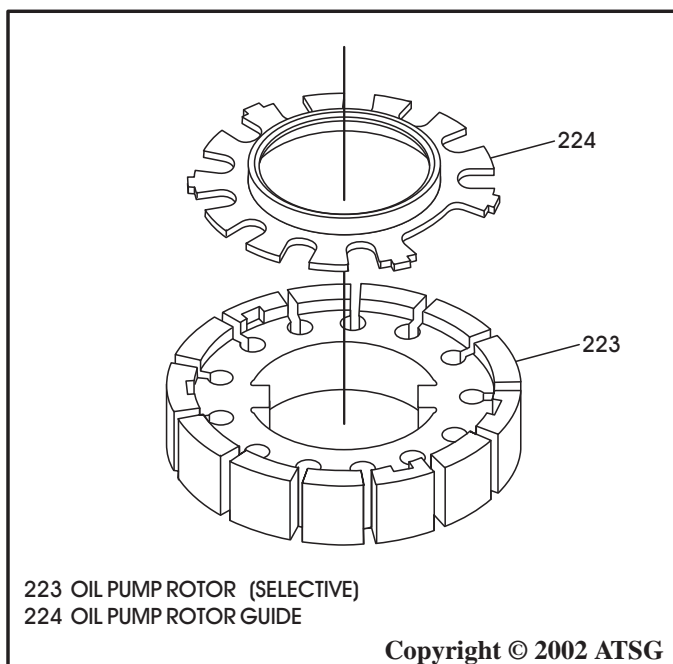

Figure 65
24. Install the oil pump rotor guide into the rotor in the direction shown in Figure 65, and retain with a small amount of Trans-Jel®.